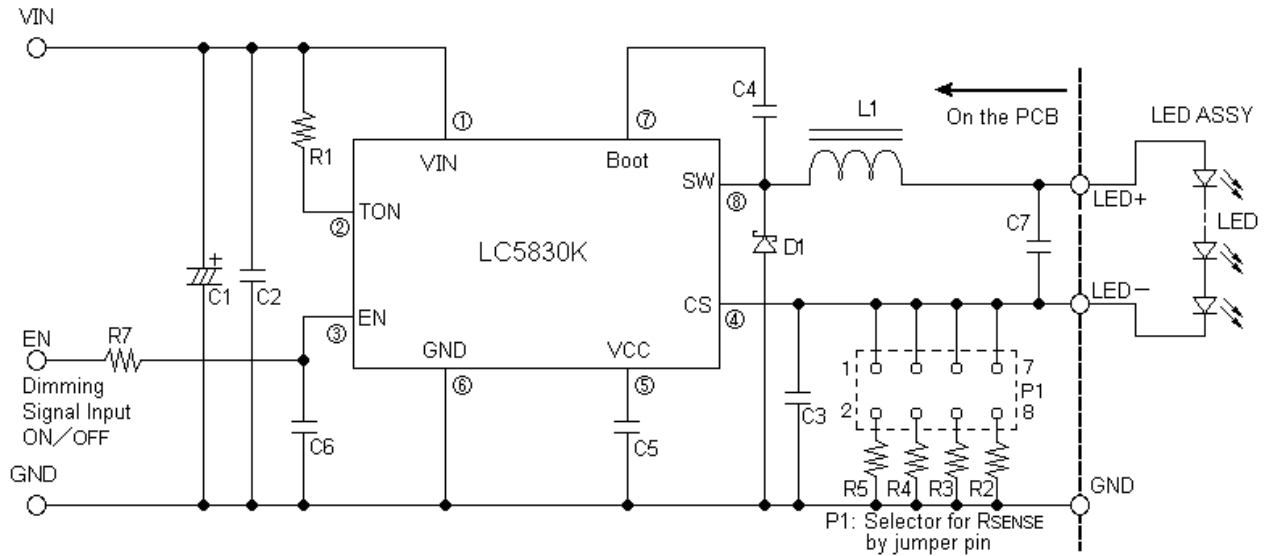

fig.19 LC5830K The circuit diagram of Demo-board
- 3) The highest di/dt occurs at the instant the upper FET turns on and the asynchronous diode D1 undergoes reverse recovery as shown in loop 3. The input capacitors  $C_{IN}$  must deliver this high instantaneous current. C1 (fig19 /electrolytic capacitor) should not be too far off C2(fig19 /ceramic capacitor). Therefore, the loop from the ceramic input capacitor C2 through the upper FET and asynchronous diode to ground should be minimized. Ideally this connection is made on both the top (component) layer and via the ground plane.
- 5) Keep sensitive analog signals (CS, and R1/fig19 of switching frequency setting) away from the SW polygon.
- 6) For accurate current sensing, the LED current sense resistor  $R_{SENSE}$ (R2 – R5/fig19) should be placed close to the IC.
- 7) Place the boot strap capacitor C4(fig19) near the BOOT node (pin 7) and keep the routing to this capacitor short.
- 8) When routing the input and output capacitors (C1, C2, and C7/fig19 if used), use multiple vias to the ground plane and place the vias as close as possible to the LC5830K pads.